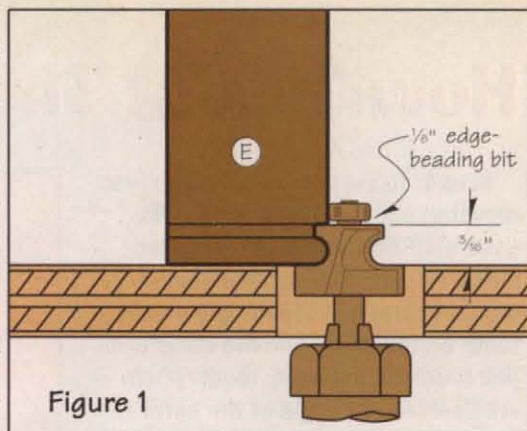

Figure 1
Step 7. From $\frac{3}{4}$ "-thick stock, cut the top rail (E) to fit the clock case front. Next, fit your table-mounted router with a $\frac{1}{8}$ "-diameter edge-beading bit, and rout the bead along the front face and both ends of the rail as shown in figure 1 at *right*. Back the piece with a backing board when routing the ends to eliminate chip-out. (We used an Eagle America $\frac{1}{8}$ " edge-beading bit, catalog no. 163-0205.)